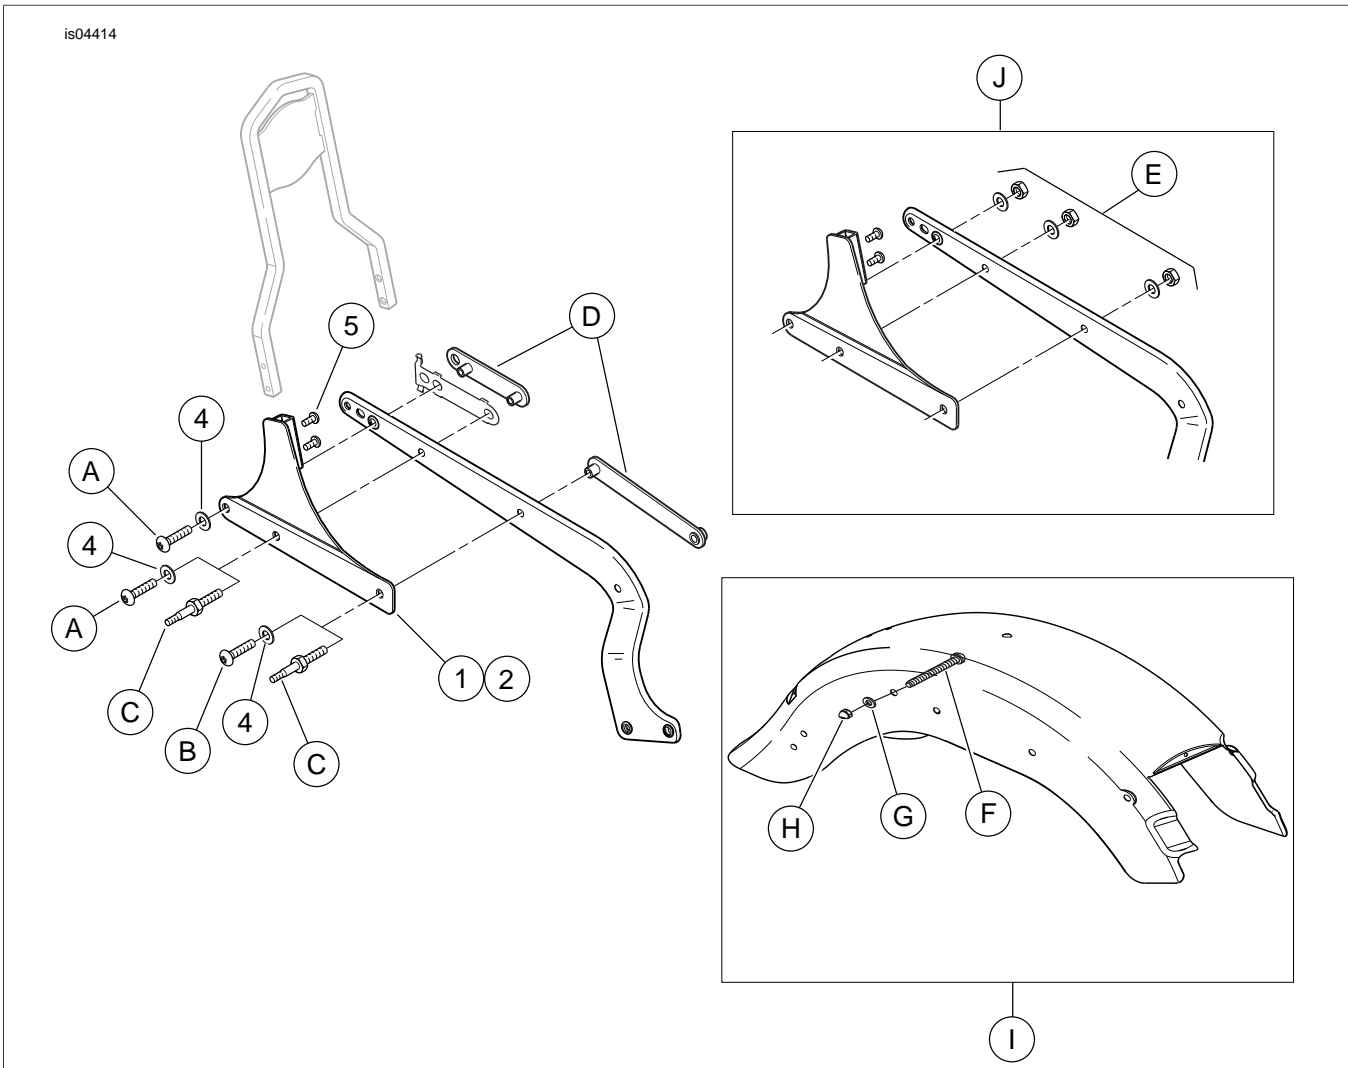

Figure 1. Service Parts: Rigid Mount Sideplate Kit
See Figure 1 and Table 1.
- b. See Figure 1. Remove the bolt (A) and washer (4) that secures the rear fender to the fender brace. Discard the bolt and washer. Remove and retain the two saddlebag mounting studs (C) and nut plate (D) for later use.
- a. See Figure 1. Remove the two rearmost bolts (A), washers (4) and nut plate that secure the rear fender to the fender brace. Discard the bolts and washers.
- b. Remove the bolt (B) and washer (4) that secure the fender and brace to the frame. Discard the bolt and washer.
2. See Figure 1. Position the correct sideplate to the outside of the fender brace.
3. With saddlebags: Apply LOCTITE 243 (blue) to the 3/8-16 threads of the saddlebag mounting studs (C) and reinstall the studs through the sideplate, fender brace, frame and fender, and thread into the stock nut plates (D). Install one chrome 3/8-16 screw (3) and chrome washer (4) from the kit through the rear hole in the sideplate, fender brace and fender, and thread into the stock nut plate (D). Without saddlebags: Install three chrome 3/8-16 screws (3) and chrome washers (4) from the kit through the holes in the side plate, fender brace and fender, and thread into the stock nut plates (D).
5. Install a sissy bar (not included in the kit) into the sideplates. Apply LOCTITE 262 (red) to the threads of the chrome 1/4-20 capscrews (5) and insert them into the sideplate holes. Tighten to 8-10 ft-lbs (11-14 Nm).
6. Tighten the bolts (3) and/or saddlebag mounting studs to 21-27 ft-lbs (28.5-36.6 Nm).
Figure 1. For 2000-2002 models equipped with wide tire kit (I), use hardware found in that kit to re-orient the fasteners (F), washers (G), and Nuts (H). Fasteners (F) should be installed from the inside of the fender facing towards the outside.